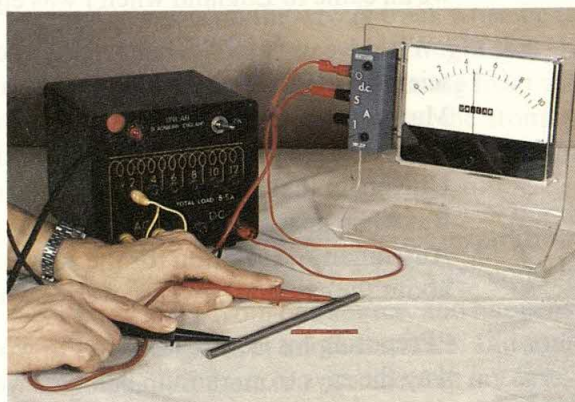

Figure 5.37
23 Use the information in figures 5.37 to 5.40 and the data in tables 3, 4 and 5 of the Data section to work out the structure of these substances: titanium, lead(II) bromide, benzene, and boron.